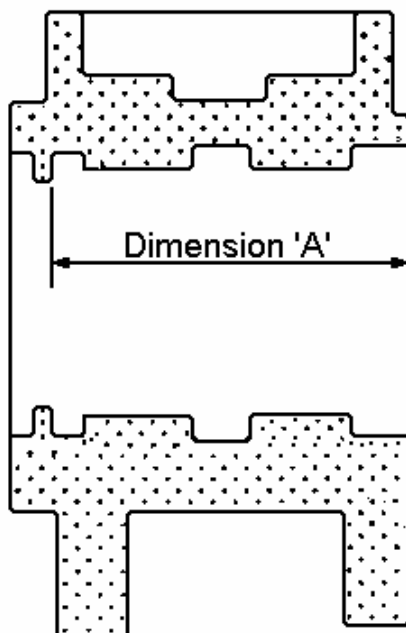

Figure 2: Axlebox Bore Depth
- C.8 Measure the axlebox bore depth from the rear face at four positions equi-spaced. See Dimension 'A' on Figure 2. Dimension 'A' shall not exceed 133.525mm at any of the four positions.